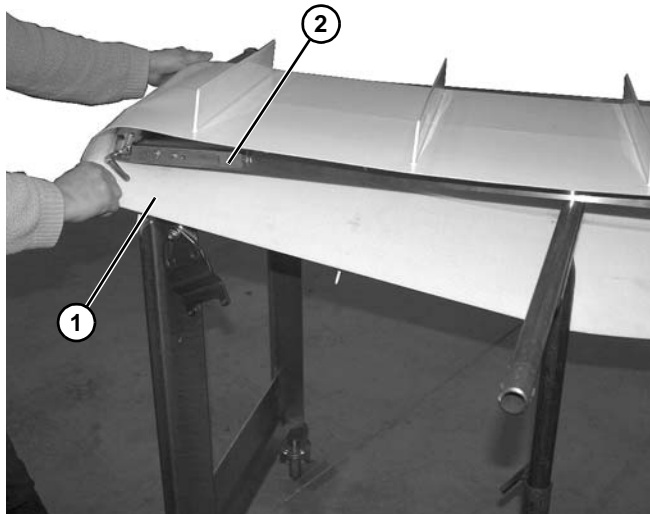

Figure 57
- Remove the belt (Figure 57, item 1) from the conveyor (Figure 57, item 2).